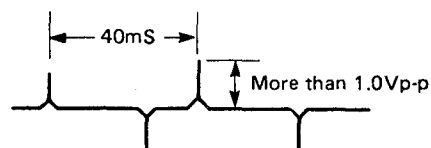

Figure 79.
2. Observe the output of TP-703 on oscilloscope (internal trigger), and check its values are as shown in Fig. 79.